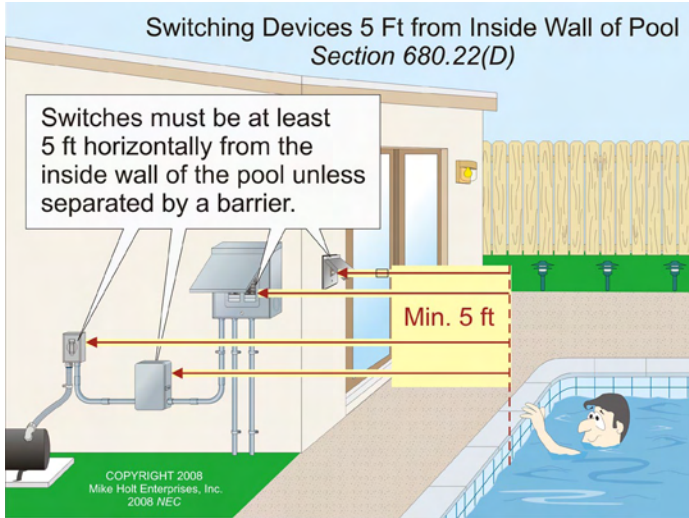

Figure 680-19
(D) Switching Devices. Circuit breakers, time clocks, pool light switches, and other switching devices must be located not less than 5 ft horizontally from the inside walls of a permanently installed pool, outdoor spa, or outdoor hot tub unless separated by a solid fence, wall, or other permanent barrier. **Figure 680-19**